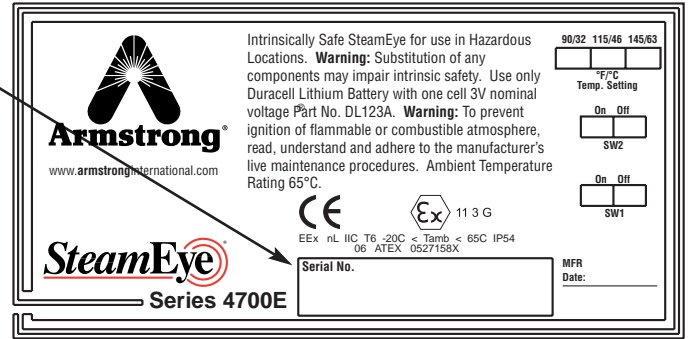

Figure 1. Model URFC 4700E Installation
1. Verify tag number to transmitter as shown in Figure 1.
1. Verify tag number to transmitter as indicated in Figure 1.